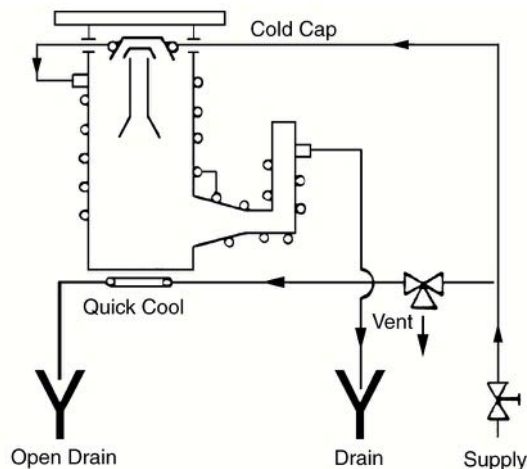

Figure 10 Cooling Water Connections
1. Connect the cold cap cooling coil and all body and foreline cooling in series *except the Quick Cool coil* (see the following paragraph) as shown in Figure 10. Refer to Table 4 on page 6 for the cooling water flowrate for your pump type. Higher flows will not harm the pump.